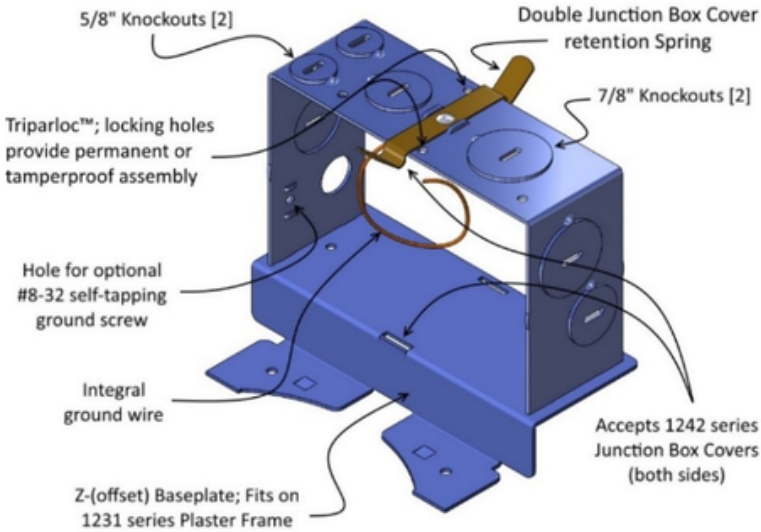

Fig. 40 Tripar's #1232-10 junction box
- The 1232-X series junction boxes that contain the Z-shaped baseplate (ref fig. 40)